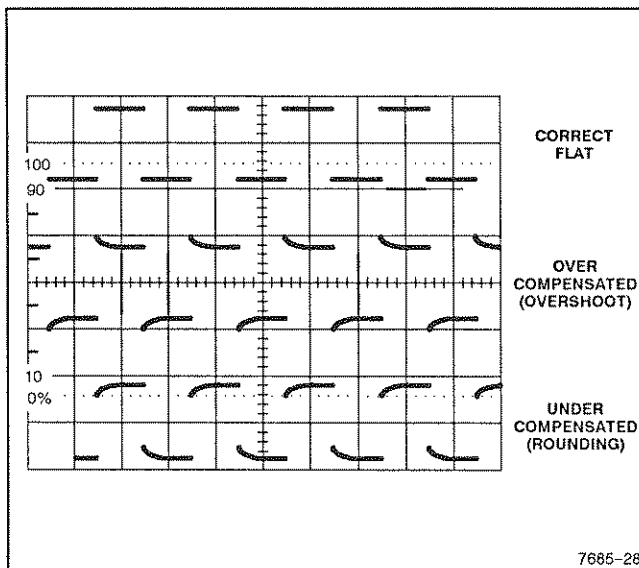

Figure 2-11. Probe compensation.
5. Check the waveform display for overshoot and rolloff (see Figure 2-11). If necessary adjust the probe compensation for flat tops on the waveforms. Refer to the instructions supplied with probe for details of compensation adjustment.
9. Check the waveform display for overshoot and rolloff (see Figure 2-11). If necessary adjust the probe compensation for flat tops on the waveforms. Refer to the instructions supplied with probe for details of compensation adjustment.